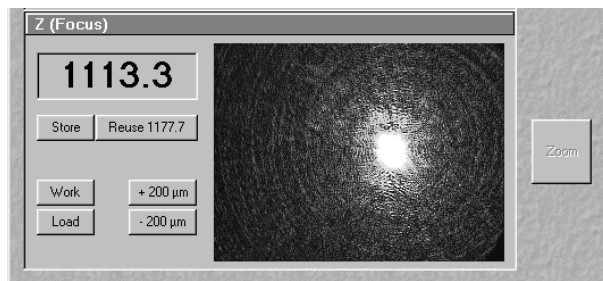

Fig. 4-32 Upper cover slip surface
- Having cautiously moved over a short distance, the cover slip reflection should look as shown in (Fig. 4-32). The upper cover slip surface has been found.